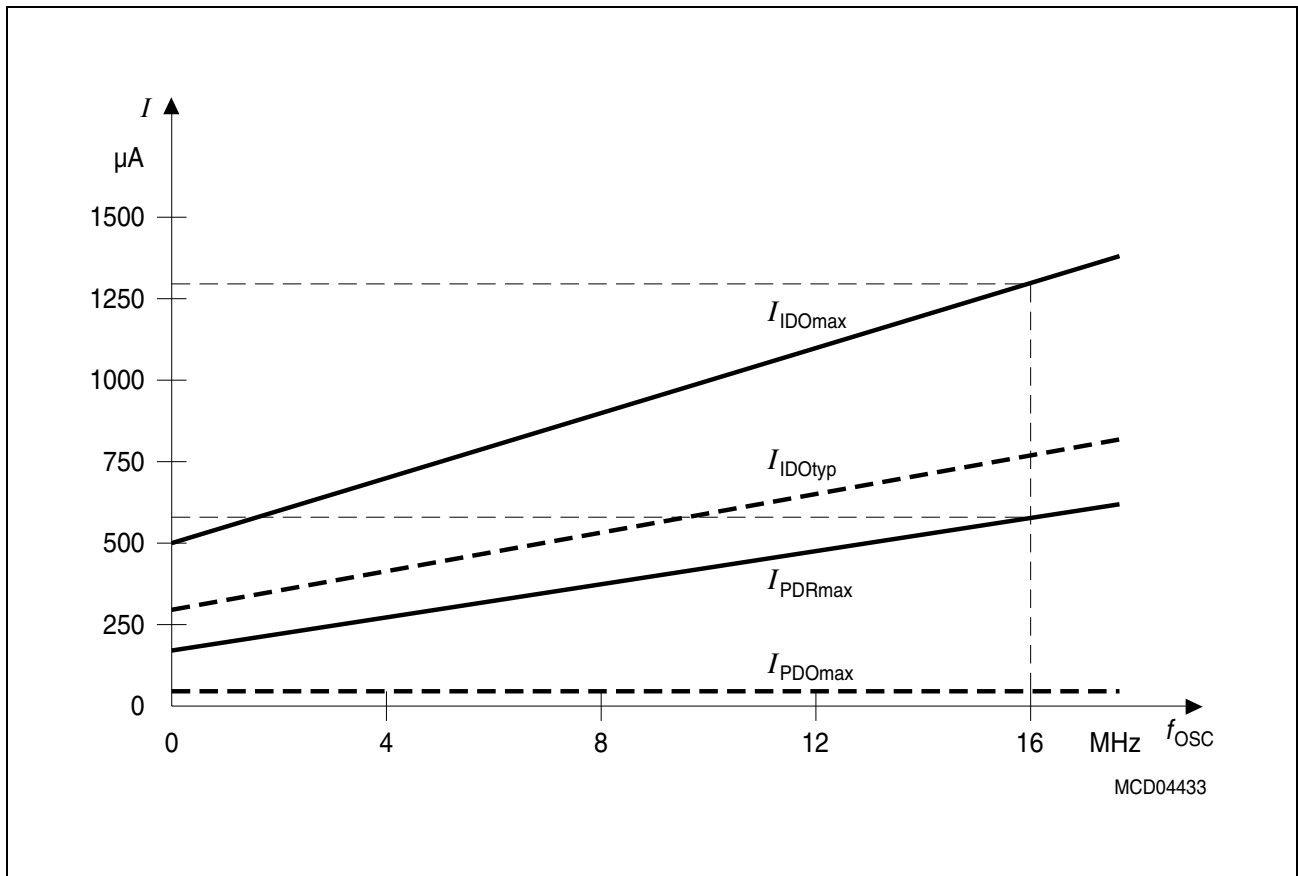

Figure 8 Idle and Power Down Supply Current as a Function of Oscillator Frequency
- ²⁾ This parameter is determined mainly by the current consumed by the oscillator (see Figure 8). This current, however, is influenced by the external oscillator circuitry (crystal, capacitors). The values given refer to a typical circuitry and may change in case of a not optimized external oscillator circuitry.